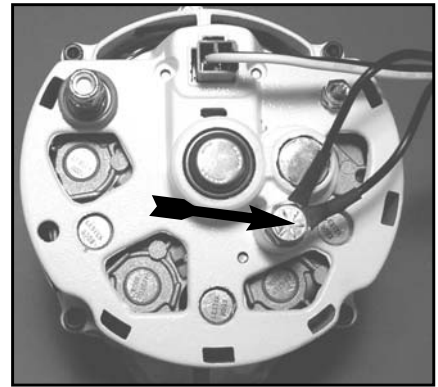

Figure 2 - Ground attachment.
- Connect the two **BLACK** ground wires at the preferred ground at the rear of the alternator (see Figure 2 for typical alternator ground connection).